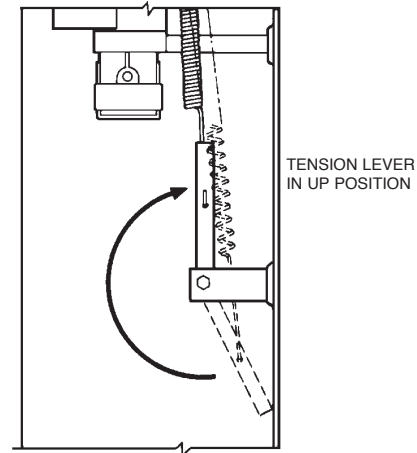

FIGURE 8-19
23. Raise the tension lever to **Up** position. See Figure 8-19.